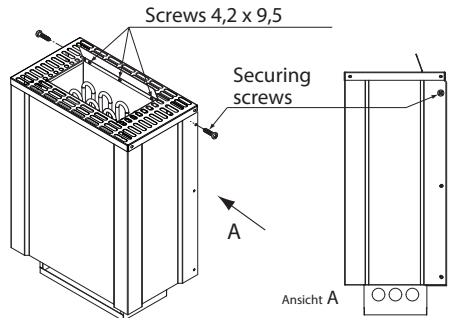

Fig. 6
7. Secure the heater on the sauna wall behind it using 2 screws through the holes in the rear upper edge of the heater (see fig. 5) or alternatively secure it to the side wall, as shown on fig. 6.